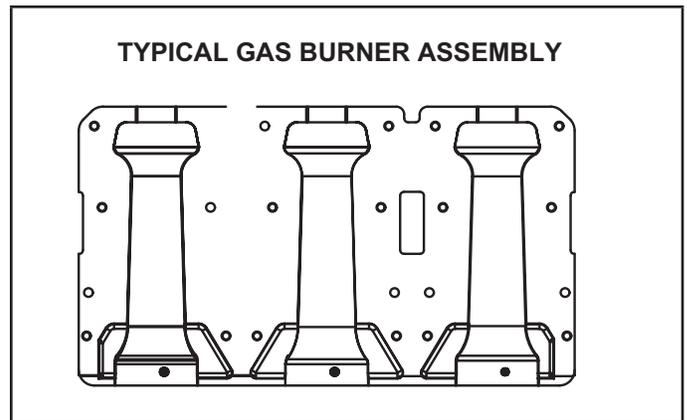

FIGURE 31
- 3 - Burner assembly is a cluster assembly (FIGURE 31) and can be removed as one.